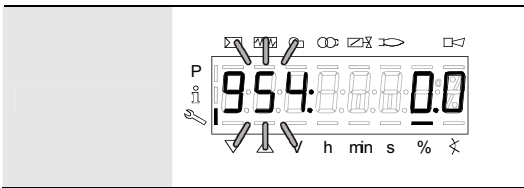

Fig. 36
- unscrew the flame sensor and the spacer 3), paying attention to seal 2)(Fig. 36) and viewing port 1)(Fig. 36) between the spacer and the electrode;
- unscrew the flame sensor 1)(Fig. 36);
#### Key (Fig. 36)